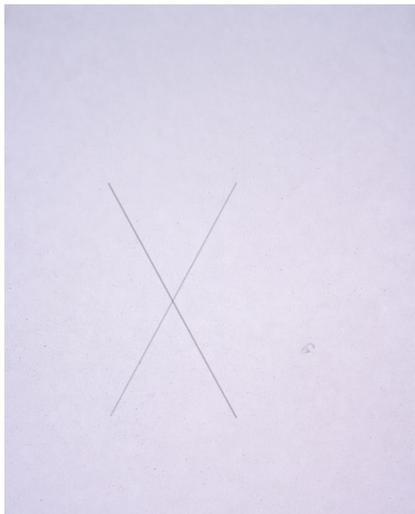

Figure 1a
2. Using a sharp blade and straightedge, make two ~1.5-inch cuts through the coating to the substrate so they intersect to form an “X” at a 30–45° intersection angle (Figure 1a).